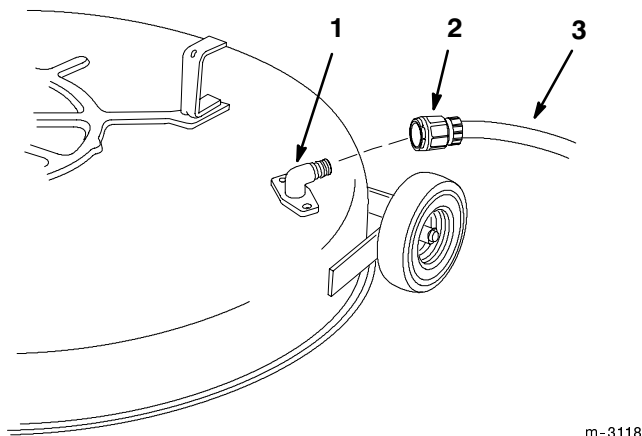

Figure 43
2. Attach the hose coupling to the end of the mower washout fitting, and turn the water on high (Fig. 43).